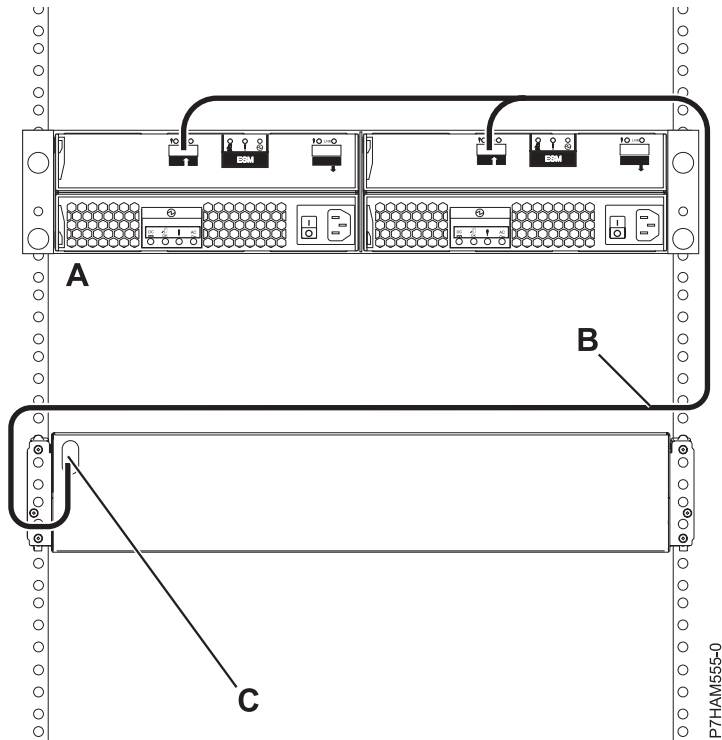

Figure 14. Connection of one 58/86 disk drive enclosure by using a YI cable to a system with support for a single SAS drawer
- h. Perform the connection of one 58/86 disk drive enclosure (A) by using a YI cable (B) to a system with support for a single SAS drawer (C) as shown in Figure 14 on page 14.